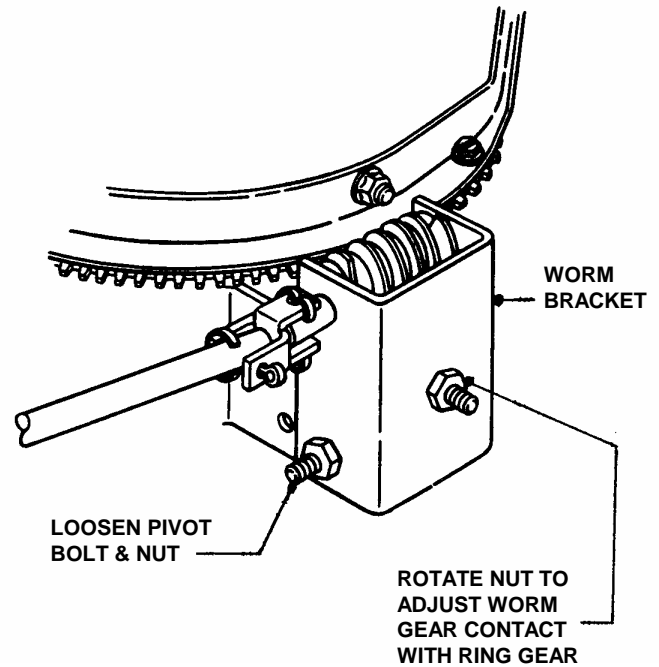

FIGURE 4.5
1. Loosen pivot bolt and nut. Rotate adjustment nut clockwise to move worm bracket closer to ring gear. Rotate adjustment nut counter clockwise to move worm bracket away from ring gear. NOTE: The worm gear should always maintain full contact with ring gear after adjustment. Retighten pivot bolt and nut. If crank still does not operate satisfactorily, lubricate worm gear and ring gear with grease. See Figure 4.5.